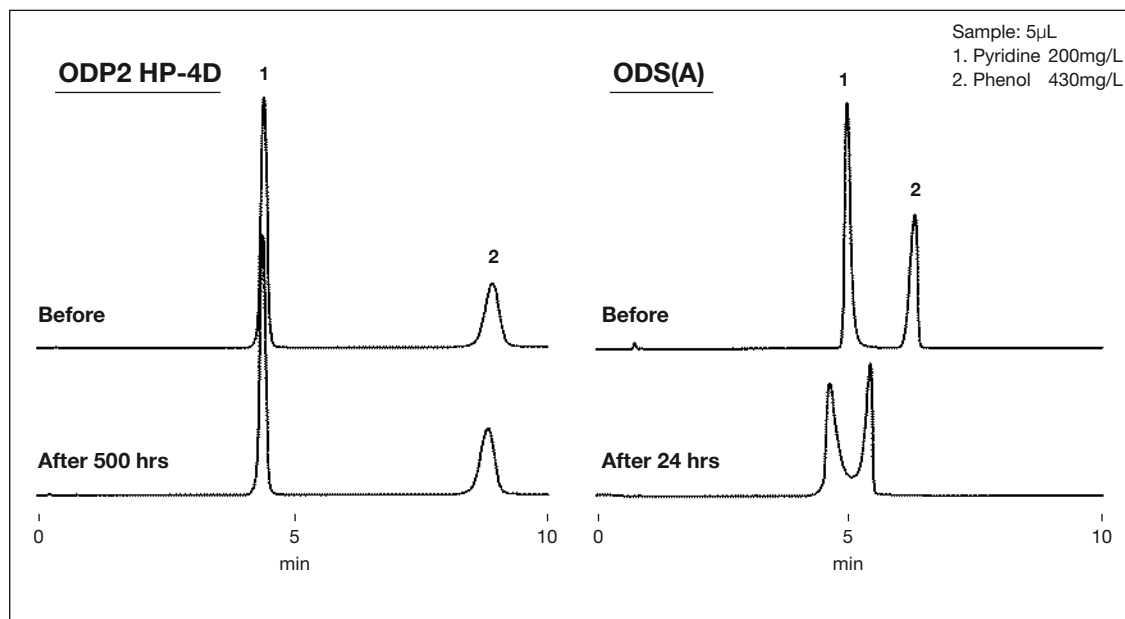
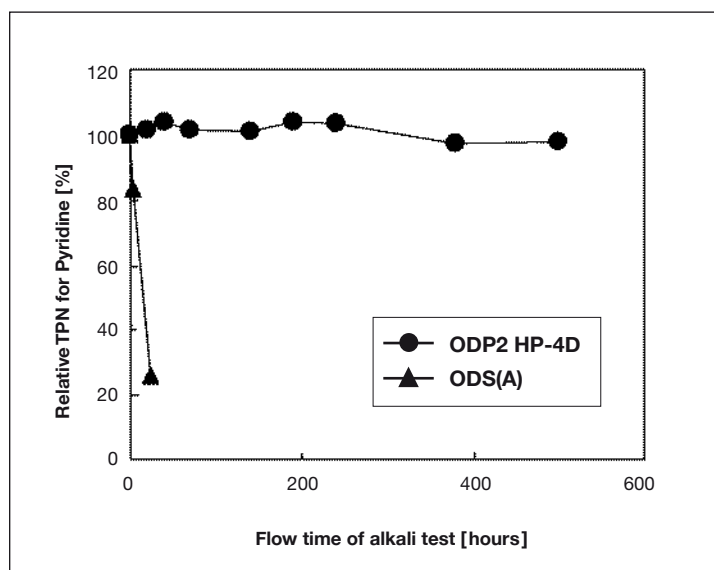

Fig. 2-10 Comparison of Chromatograms before and after Alkali Test
Fig. 2-11 Relation between Flow Time of Alkali Test and Relative TPN
Generally, silica-based ODS columns degrade rapidly when an alkali eluent is used, because the silica gel substrate is dissolved under alkaline conditions. The chromatograms before and after use of alkali eluent were compared for ODP2 HP-4D and ODS(A), as shown in figure 2-10. Also, the relative theoretical plate number (TPN) for pyridine and flow duration is shown in figure 2-11. TPN before flowing alkali eluent is set to 100% in this test. For ODS (A) retention times of each sample decreased rapidly, reducing the theoretical plate number after 24 hours of flowing alkali eluent, thus showing degradation of the column. On the other hand, the retention times of each sample and TPN were virtually unchanged even after 500 hours of flowing alkali eluent. This shows the superiority of ODP2 HP in alkali durability.